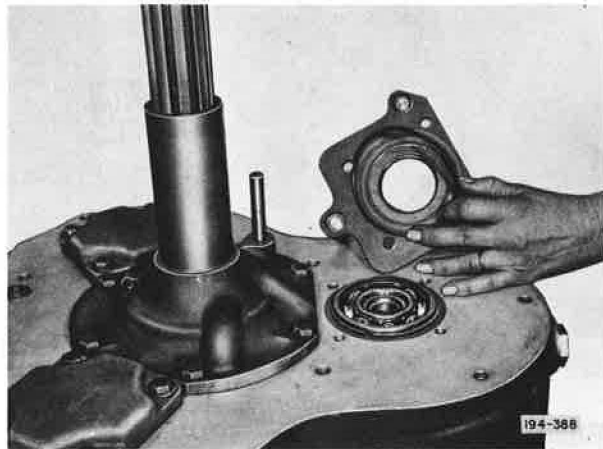

Figure 5-176. Installing Compound Countershaft Lower Front Bearing Cover O-Ring
21. Install O-ring in the lower compound countershaft from bearing cover. See Figure 5-176. Install cover assembly with capscrews on front of compound case and tighten capscrews to recommended torque.